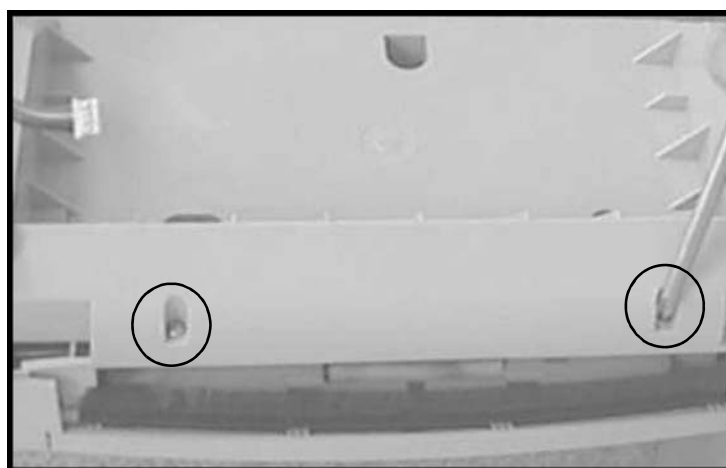

Figure 2
3. Remove the two cover screws shown in Figure 2.